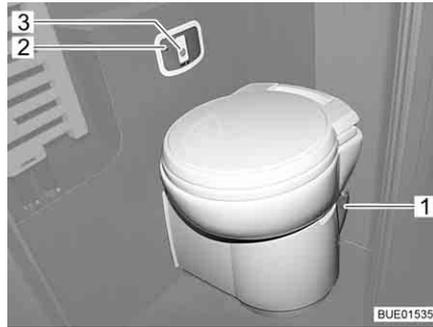

Fig. 255 Flush the toilet
- Open the sliding trap. To do this, push the slide lever (Fig. 255,1) in an anti-clockwise direction.
- Flush the toilet. Press the flush button (Fig. 255,3).
- ▷ The "cassette full" symbol illuminates (Fig. 255,2) when the cassette has to be emptied.